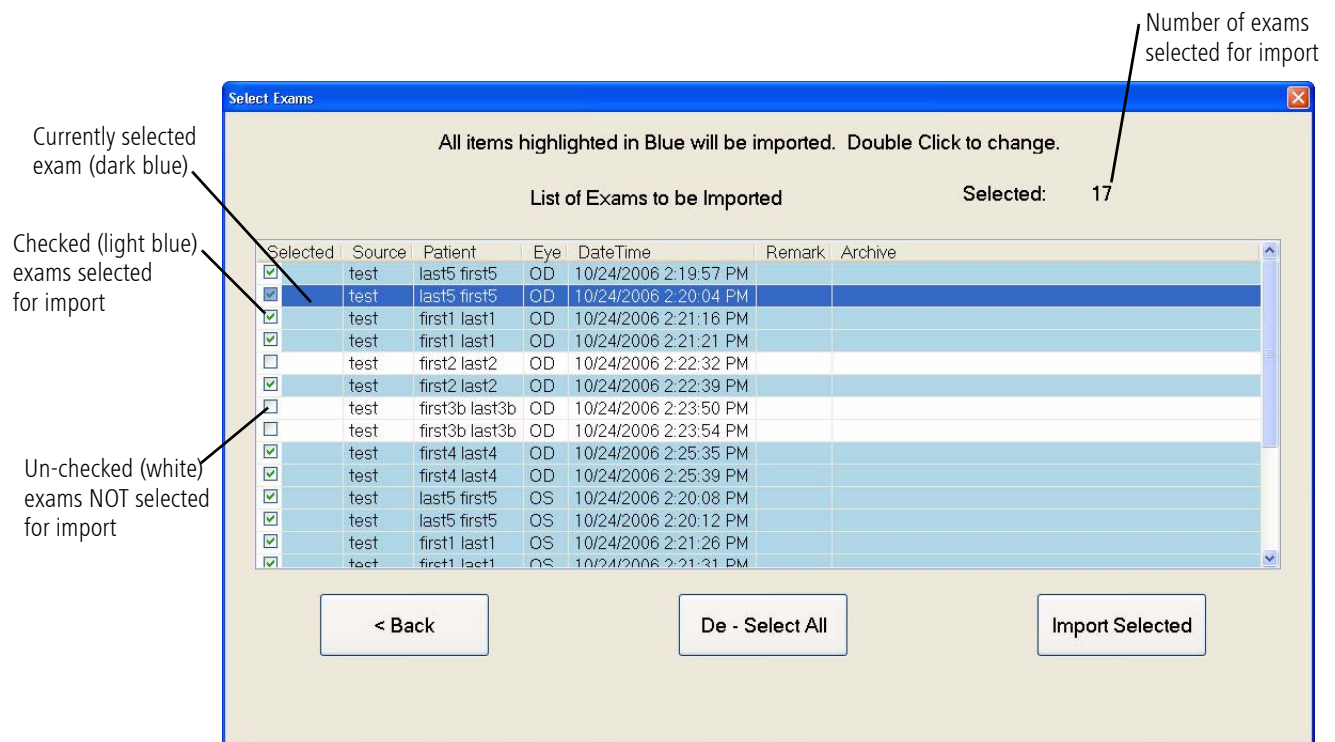

Figure 11-11 Select Exams Dialog
12. To select only certain exams to import, click **Exam Selection**. The **Select Exams** dialog (Figure 11-11) will be displayed showing a list of all exams from the database(s).